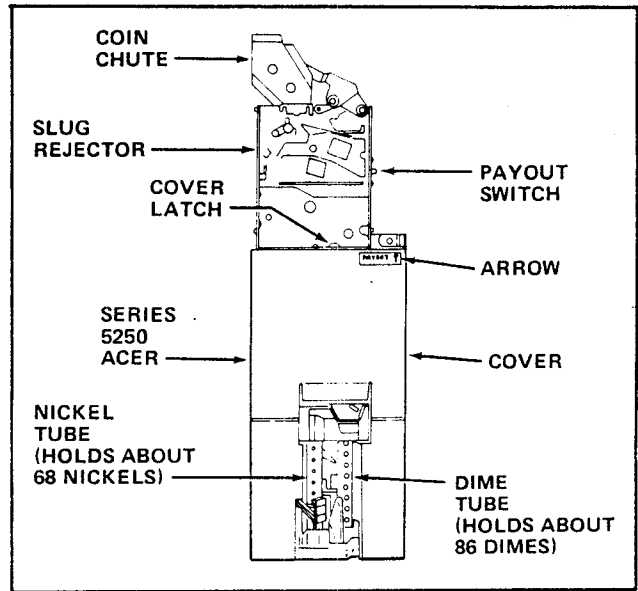

Figure 2-3. Coin Mechanism (ACER)
- a. Open the Upper Cover Plate by depressing the latch. See Figure 2-3.
- E. Load the Nickel Tube, inserting the nickels one at a time, visually checking for coins that may be shingled or standing on end. All coins must lie flat in the tube. See Figure 2-3.
1. Move the Payout Switch on the ACER to the Payout Position (arrow) and payout 2 or 3 coins from each Coin Tube to check the Changer operation. See Figure 2-3.